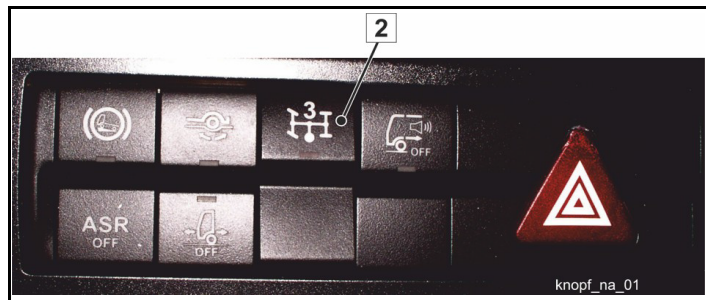

Fig. 115 Cab switch
In the cab of your vehicle, there is a switch with a symbol like in position (2) (**Fig. 115**).